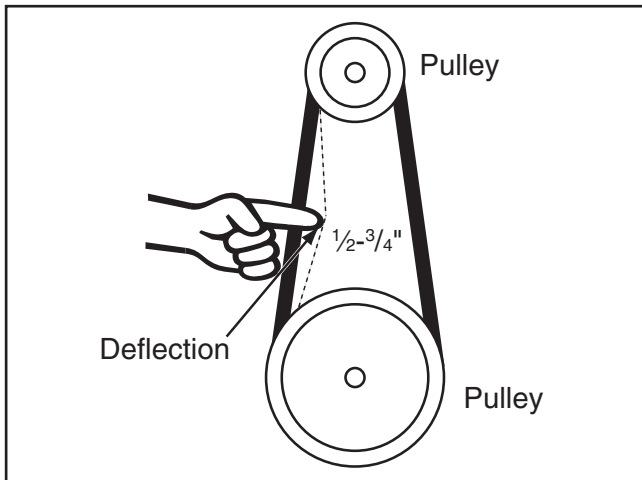

Figure 67. Correct V-belt deflection.
3. Turn the adjustment nut up or down until the V-belts deflect $\frac{1}{2}$ - $\frac{3}{4}$ " off of center when pushed hard with your finger, as shown in **Figure 67**.
3. Turn the wing nut until the V-belts deflect $\frac{1}{2}$ - $\frac{3}{4}$ " off of center when pushed with your finger, as shown in **Figure 67**.
3. Turn the long hex bolt to adjust the V-belt tension until the belts deflect $\frac{1}{2}$ - $\frac{3}{4}$ " off of center when pushed with your finger, as shown in **Figure 67**.
7. The belts are properly tensioned when they will not move more than $\frac{1}{2}$ - $\frac{3}{4}$ " when pushed hard with your finger, as shown in **Figure 67** on **Page 51**.
- Tension all the V-belts: The belts are properly tensioned when they will not move more than $\frac{3}{4}$ " in the center when pushed with your finger with moderate pressure, as shown in **Figure 67** on **Page 51**.
9. Adjust the sanding belt tension with the long hex bolt. The belts are properly tensioned when they will not move more than $\frac{3}{4}$ " in the center when pushed with your finger with moderate force, as shown in **Figure 67** on **Page 51**.
8. Tighten the lock nut so the V-belt deflects $\frac{3}{4}$ " off of center when pushed with moderate pressure, as shown in **Figure 67** on **Page 51**.